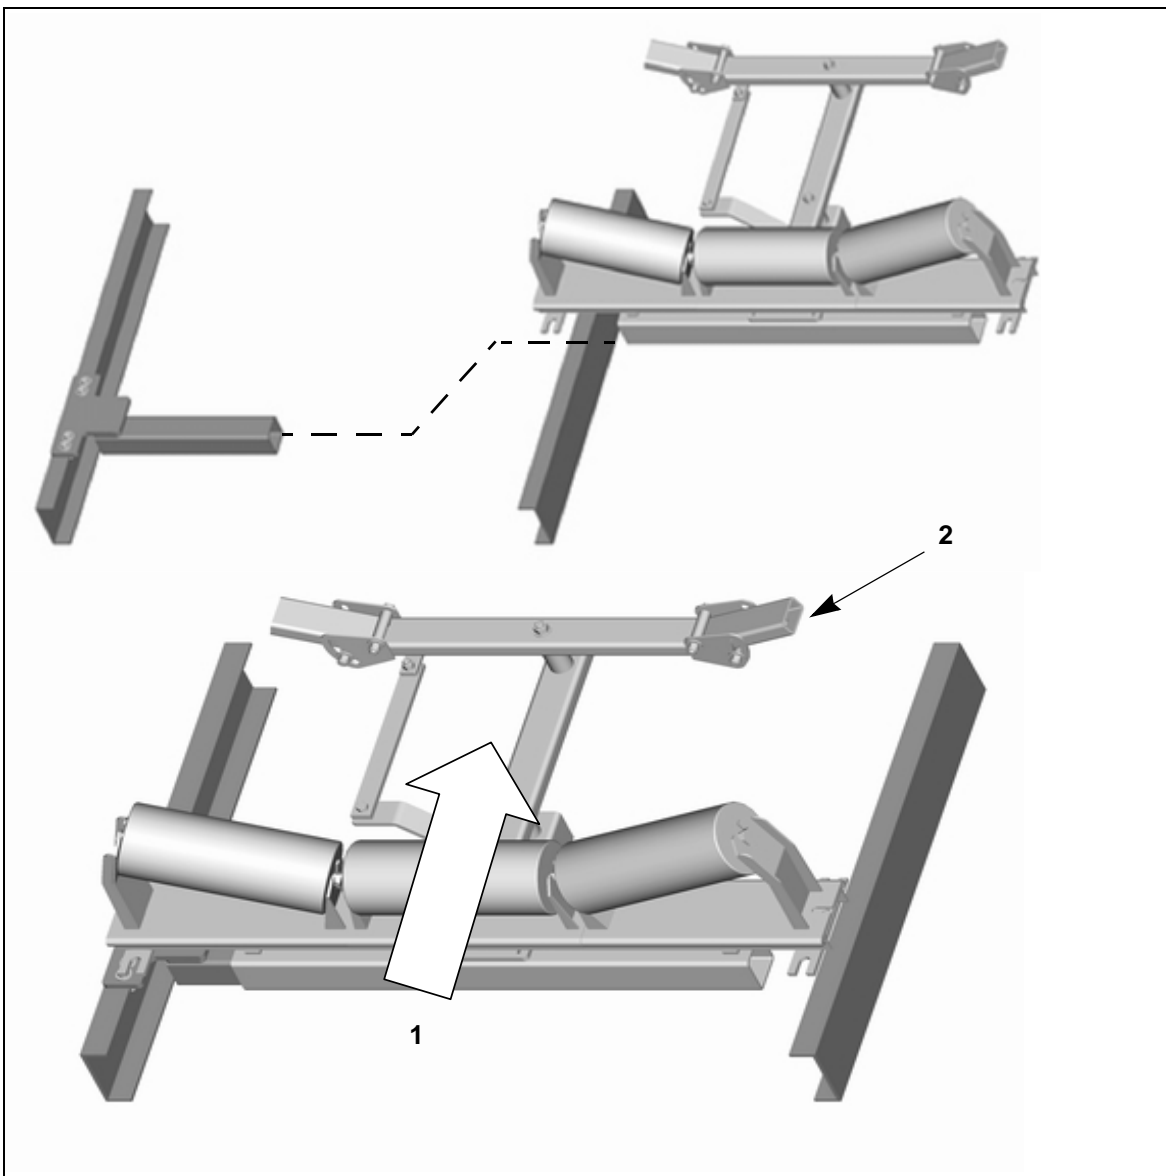

Fig. 17: Installing the tracker
6. Insert the pre-installed tracker in the installation frame installed earlier. Pay attention to the direction of movement of the conveyor belt (1, Fig. 17) and the alignment of the guide unit (2, Fig. 17).